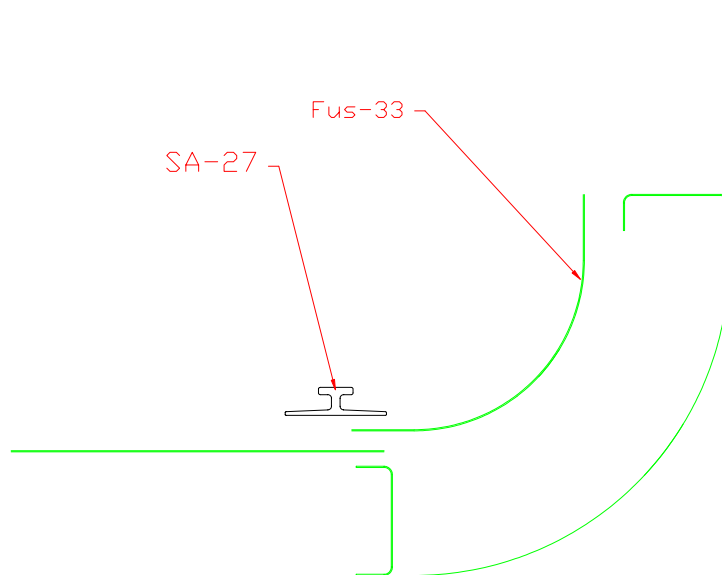

Figure 22.3.1
3) Position the seat so that the outer flange of the SA-27 track should be aligned with the support channels that were located in the fuselage section. The inside fuselage wrap by the door should be right above the outer channel. (Passenger side only) Figure 22.3.1.